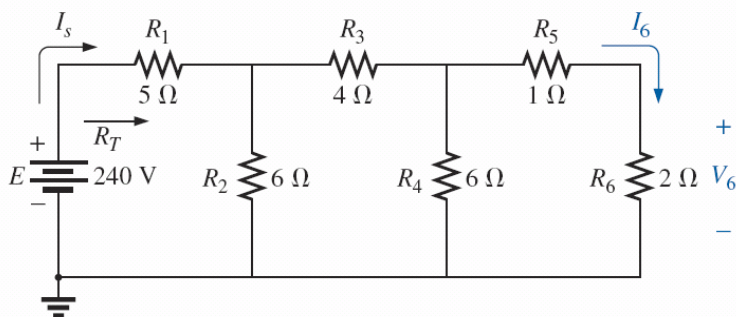

FIG. 7.32
- A three-section ladder network appears in Fig. 7.32.